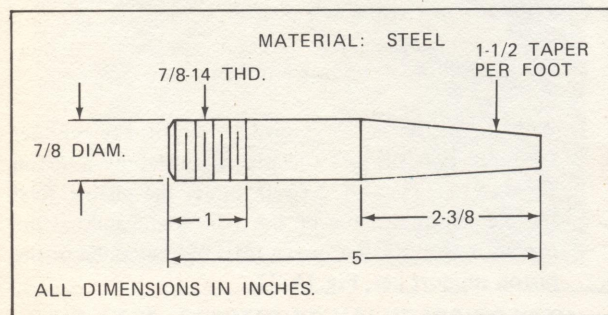

FIG. IX-73. PISTON PIN GUIDE PIN.
1. Coat the piston pin liberally with clean lube oil and install it. Install a piston pin guide pin into one of the threaded holes in the piston pin. A guide pin may be purchased as Part 147X1326, or it may be made from a piston pin bolt with the head cut off and the end bullet-nosed, Fig. IX-73.